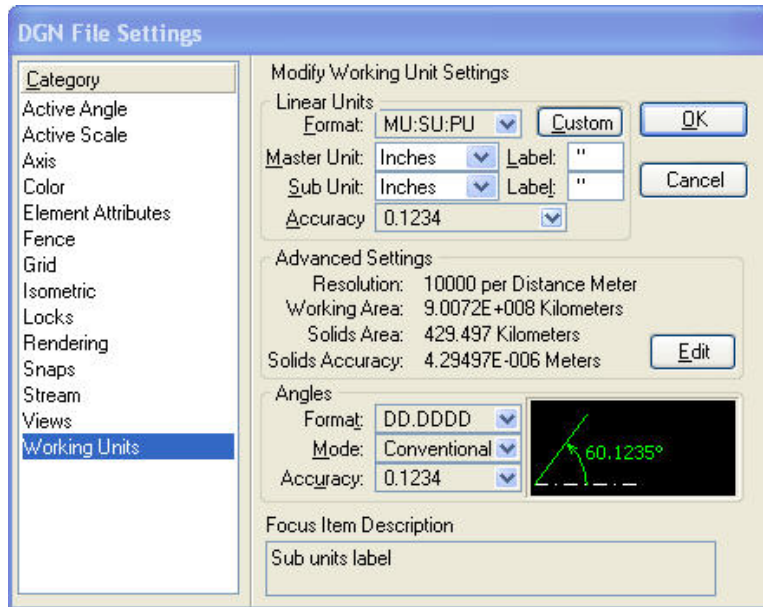

Figure P2–2 Design File Settings dialog box—Working Units ratio setup
STEP 2: In the DGN File Settings dialog box, select the **Working Units** category, and set the **Modify Working Unit Settings** as shown in Figure P2–2.